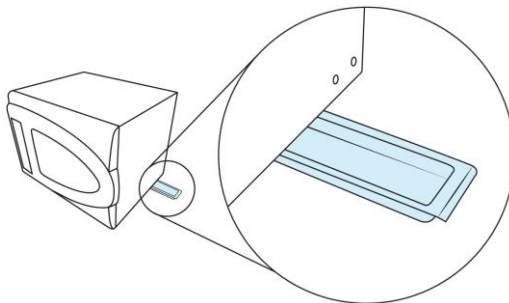

Figure 8. Condensation tray
9.1.5. Frequently check condensation accumulation in the condensation tray (fig. 8), discard if necessary.